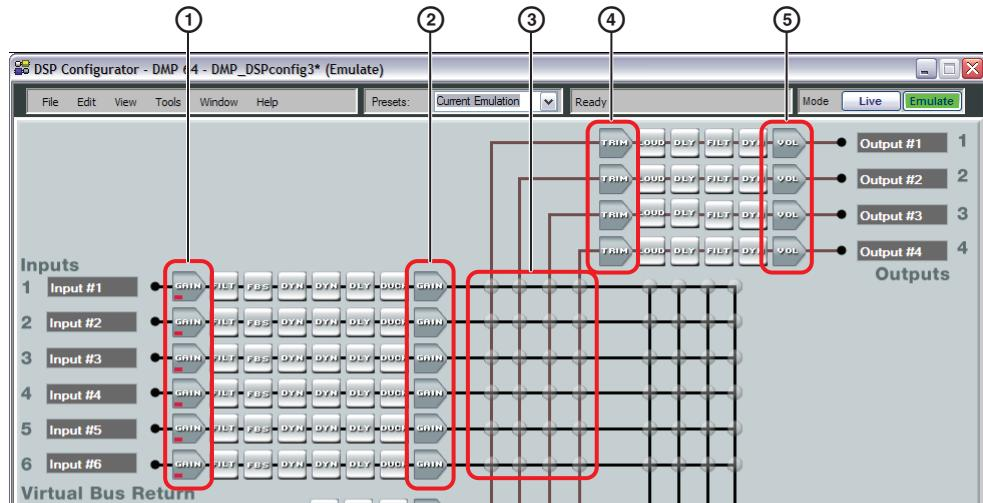

Figure 58. Gain, Trim and Volume Controls
The remainder of this section will reference the gain, trim and volume controls outlined in figure 58 below.
There are two approaches the system designer can take in setting up gain structure, depending upon where output volume is to be controlled. The output volume of the DMP 64 can be controlled by either of the following two gain blocks (see figure 58 on the previous page):
For program material, set the input gain level (see figure 58, ①) so the meters reach –15 to –12 dBFS, with peaks at approximately –5 to –3 dBFS. This setting provides enough headroom to accommodate transients or unanticipated loud events in the program material to avoid clipping.
In order to set up a gain structure to include signal processing, listening to the audio can be advantageous. Route the audio that carries program material from the source to the speakers in the room being set up. With the output volume control (see figure 58, ⑤) set to –20 dB, set the external amplifier so the source material plays at a volume level that is reasonably loud, but tolerable.
After setting input gain, add desired processors into the input signal chain (see figure 58 on page 88). The pre-mixer gain control (②) is used to compensate for level changes due to processing. Adding a compressor generally reduces the signal level, while a filter can boost or cut the overall signal level. When changes are made to filter settings after setting dynamics processors, re-check the levels in the dynamics processors to make certain they are still valid.
In this example, the mic/line input 1 signal is sent to output 1 (see figure 58 on page 88).